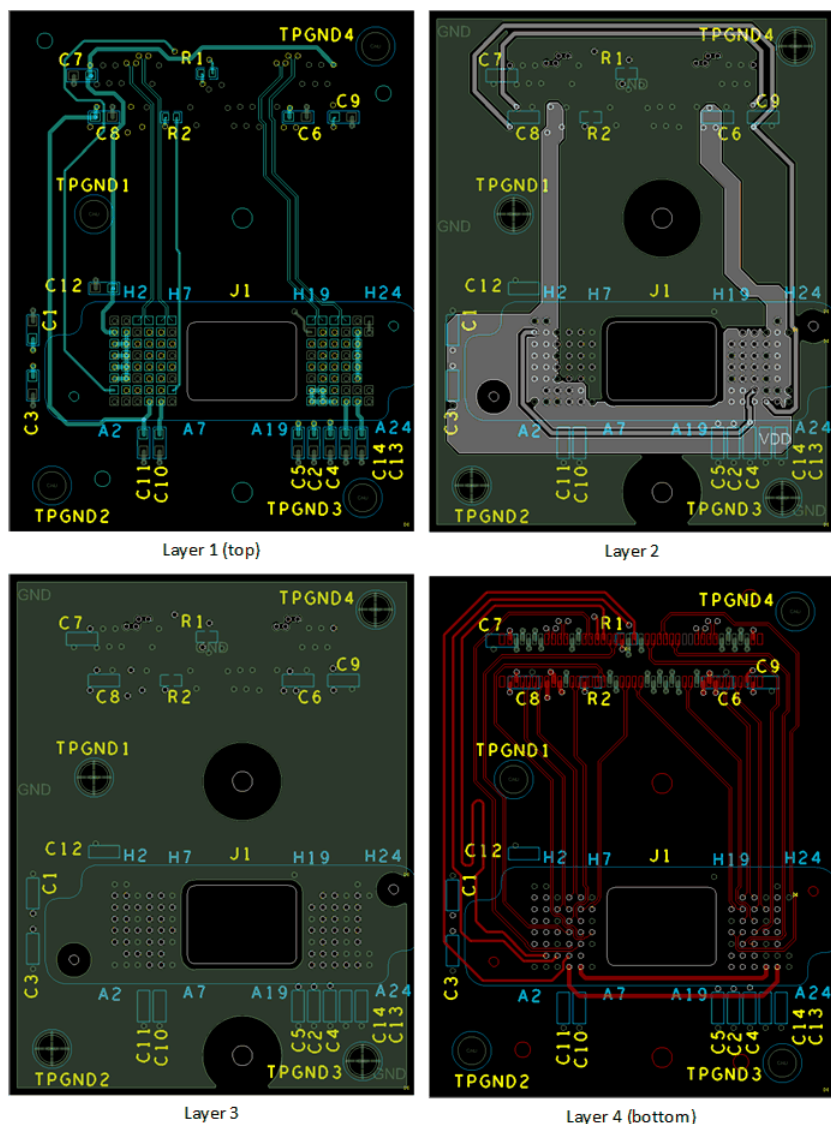

Figure 24. Power Supply Connections
- Minimize vias, layer changes, and turns for the HS bus signals. Refer to Figure 24.
- Minimum of two 220-nF (35 V) capacitors - one close to V_{BIAS} pin. Capacitors C10 and C14 in Figure 24.
- Minimum of two 220-nF (35 V) capacitors - one close to each V_{RST} pin. Capacitors C11 and C13 in Figure 24.
- Minimum of two 220-nF (35 V) capacitors - one close to each V_{OFS} pin. Capacitors C4 and C12 in Figure 24.
- Minimum of four 220-nF (10 V) capacitors - two close to each side of the DMD. Capacitors C1, C3, C2, and C5 in Figure 24.